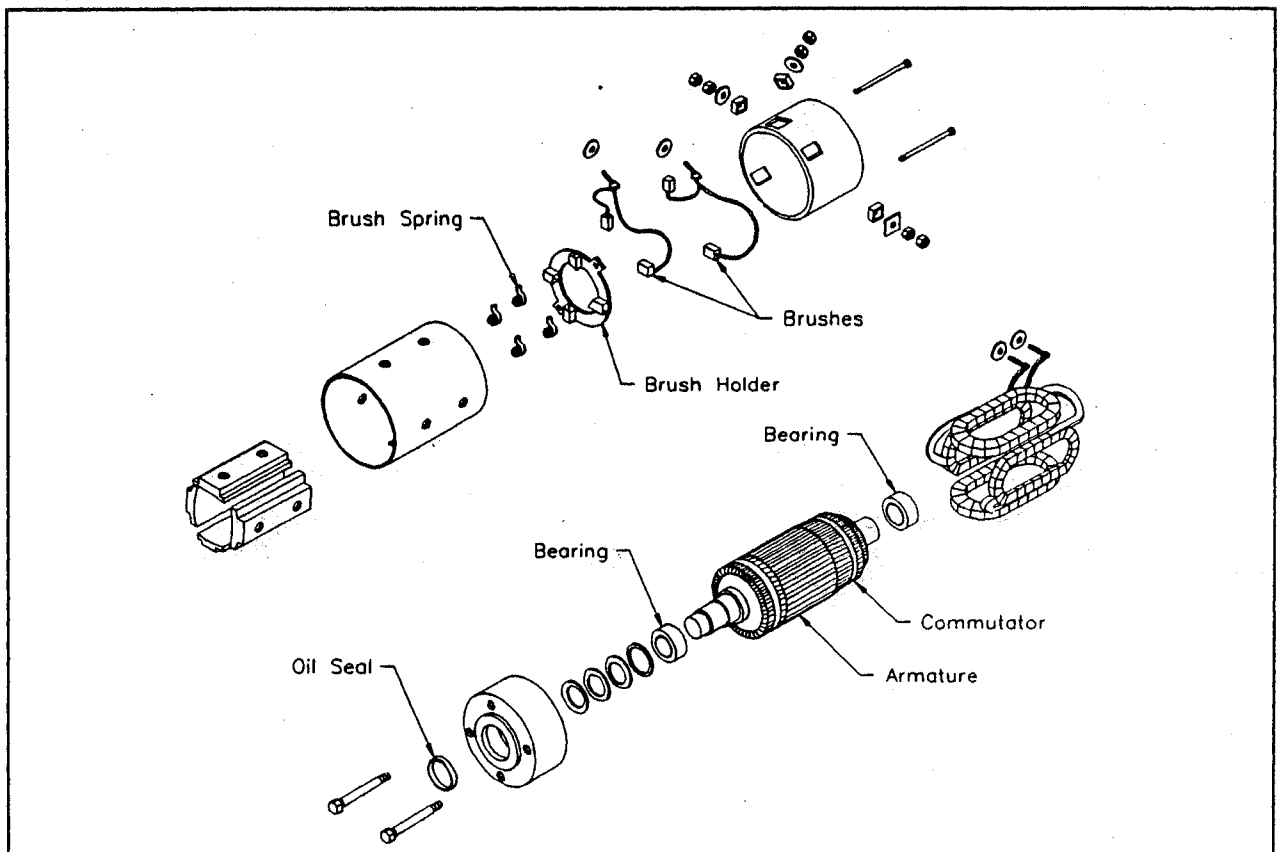

Figure 3-13 (70-049-00)
- Remove the motor end cover revealing the brush holder and brushes. Disassemble the brush studs from the end cover (see figure 3-13).